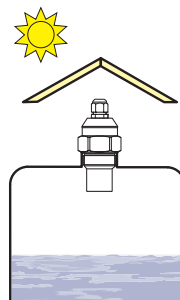

Fig. 8: Direct solar radiation shielding cover
- l) In case the installation at places with direct solar radiation is inevitable, it is necessary to mount a **shielding cover** above the level meter (Fig. 8).